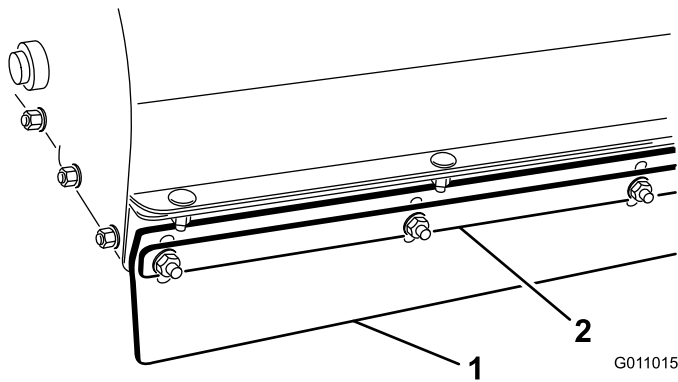

Figure 22
1. Loosen the nuts securing the metal strap and the front flap to the brush housing (Figure 22).